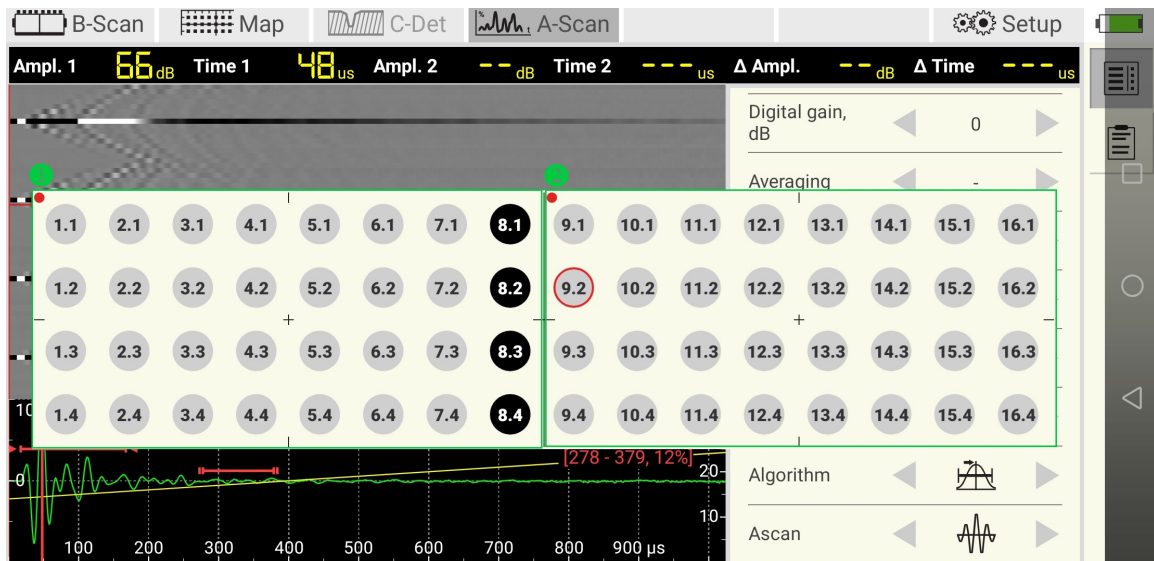

Figure 14: Selection a group of transmitters in linear mode
The farm view of A1040 MIRA 3D PRO works equally to the farm view of A1040 MIRA 3D. The A1040 MIRA 3D PRO addresses the transducers of the master **[M]** and the slave **[S]** throughout (see Figure 14 ① and ②). Thus, all the 64 transducers may work independently as transmitters or receivers, separately or in groups.